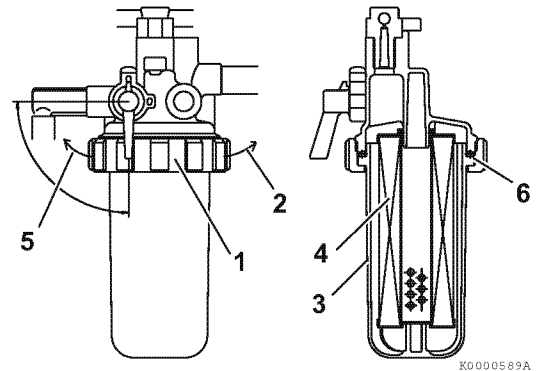

Figure 5-13
*Note: If there is a red line (**Figure 5-13, (2)**) in the outer element, reinsert the element until the overlap position of red line and end face of the air cleaner case.*
3. Turn the retaining ring (Figure 5-13, (1)) to the left (Figure 5-13, (2)).
4. Carefully remove the cup (Figure 5-13, (3)) and pour the fuel into an approved container and dispose of waste properly. Hold the bottom of the cup with a shop towel to prevent the fuel from dripping. Wipe up any spills immediately.
5. Remove the element (Figure 5-13, (4)) by pulling it down.
8. Check the condition of the cup O-ring (Figure 5-13, (6)). Replace if necessary.
9. Reinstall the cup to the mounting flange and turn the retaining ring (Figure 5-13, (1)) to the right (Figure 5-13, (2)). Hand-tighten only.